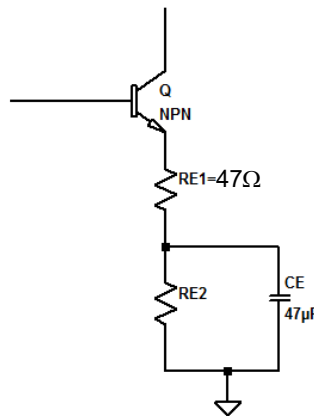

Figure 3. Un-bypassed Emitter Resistance Circuit of a BJT Common Emitter Amplifier
- Divide R_E into $R_{E1} = 47\Omega$ and $R_{E2} = R_E - 47\Omega$ as shown in Figure 3. Calculate and measure new mid-band voltage gain and input resistance. *Demonstrate your results to the TA.*